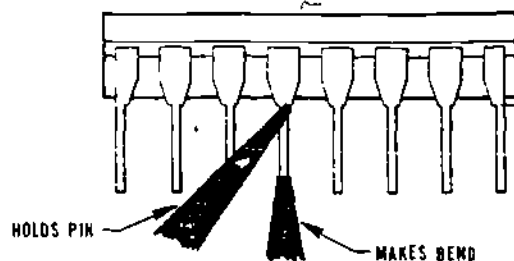

Figure 7
8. Most IC's are mounted on printed circuit boards and soldered in place. The pads on the boards are placed so that the IC may be mounted easily. However, you may have to bend the IC's leads a small amount to align them with the holes in the pads. To do this you must use two small needlenose pliers; one to hold and support the lead, the other to make the bend. See Figure 7.